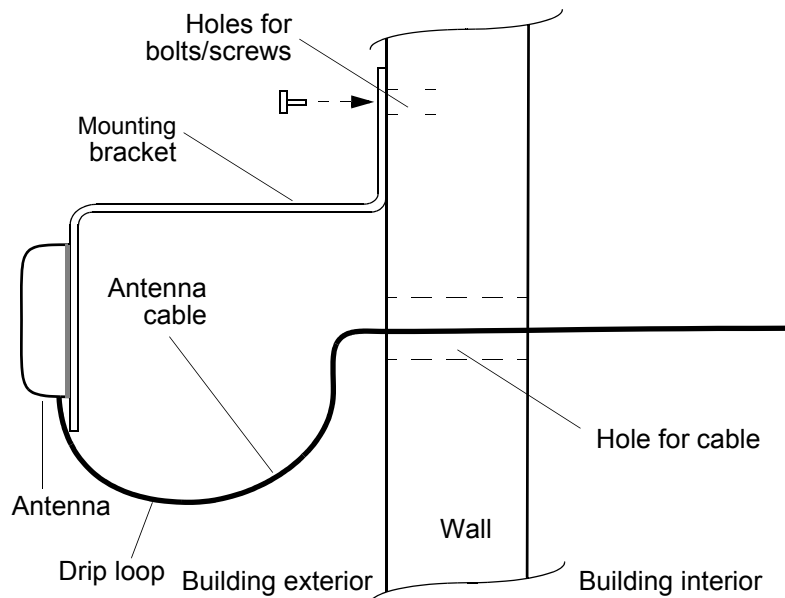

Figure 3-14. Wall Antenna Mounting
7. Push the SMA connector of the antenna cable through the hole drilled in the wall in Step 3. Be sure the antenna cable forms a drip loop between the antenna and the cable entry into the building (Figure 3-14).